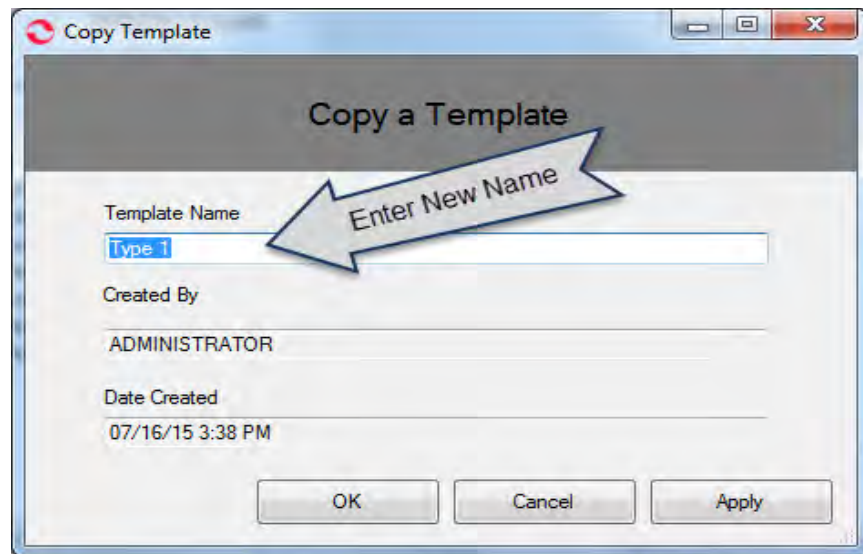

Figure 3-10: Copy Template Window
2. Enter the new template name in the Template Name text box of the Copy Template window shown in Figure 3-10. Created By and Date Created are automatically added by the software.